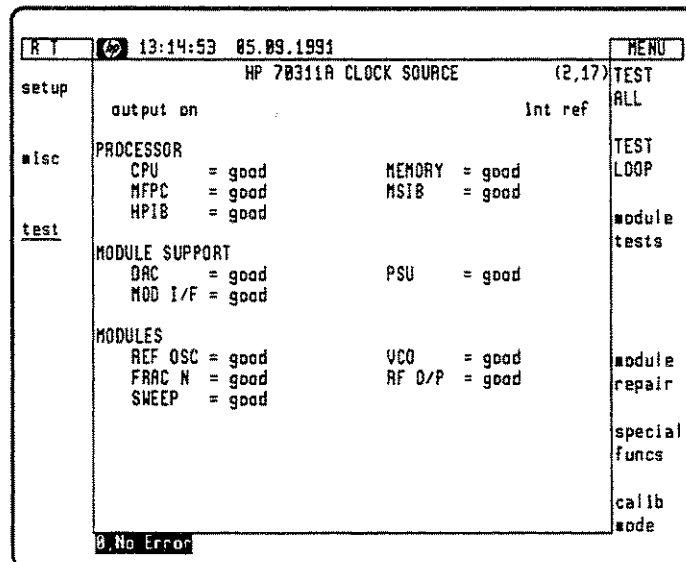

Figure 6-3. Module Tests Display
- Press the **Test** softkey on the lefthand menu followed by the **test ALL** softkey on the righthand menu. The clock source now executes a series of module tests, and at completion gives a display similar to Figure 6-3.